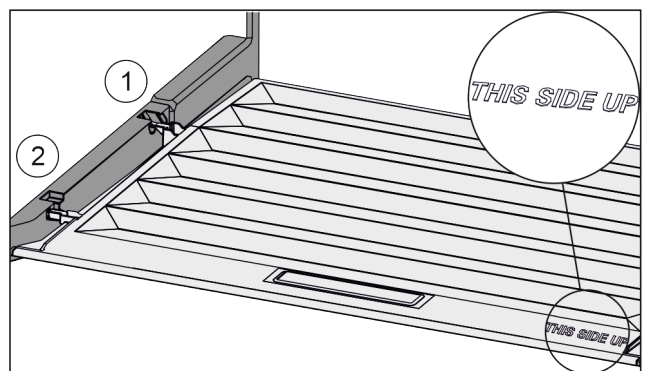

Fig. 110
- ▶ Insert the lip of the cover over the opening of the rear bracket Fig. 110 (1) and click into place Fig. 110 (2).